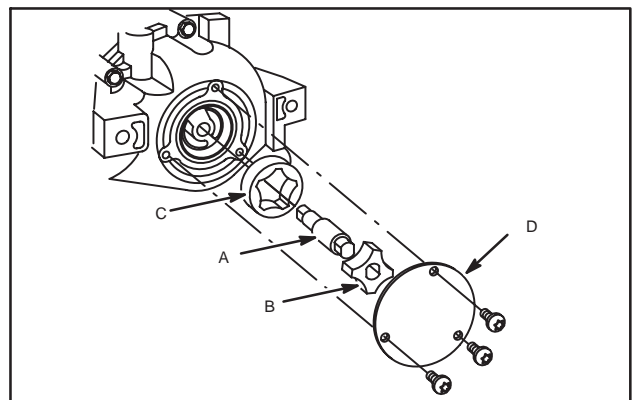

Fig. 16 – Install Oil Pump
3. Lubricate oil pump components with engine oil and assemble to sump, Fig. 16. Make sure drive shaft is engaged in camshaft.